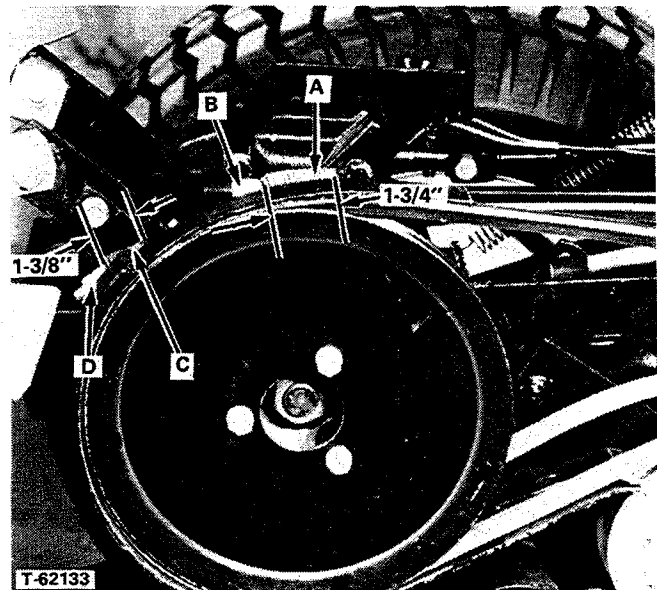

FIGURE 36 - Pulley Brake Adjustment
- The pulley brake return spring (C, Figure 36) should be compressed enough so that it measures $1\frac{3}{8}$ " (34 mm) with the clutch-brake pedal released (up). If it does not, turn the nut (D) to obtain the proper measurement.
- While holding the clutch-brake pedal down fully, measure the length of the spring (A) on the pulley brake rod. It should be compressed to $1\frac{3}{4}$ " (45 mm). If it is not $1\frac{3}{4}$ " (45 mm) loosen the adjusting nut (B) and move it forward or back until the proper measurement is reached.